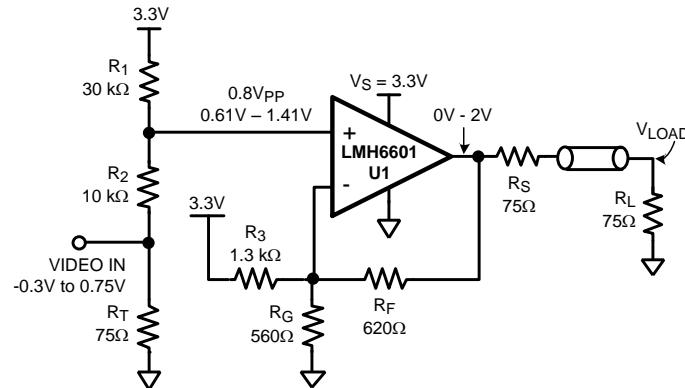

Figure 53. Single-Supply, DC-Coupled Composite Video Driver for Negative Going Sync Tip
If the Video In signal is Composite Video with negative going Sync tip, a variation of the previous configurations should be used. This circuit produces a unipolar (more than 0 V) DC-coupled single-supply video signal as shown in Figure 53.
In the circuit of Figure 53, the input is shifted positive by means of  $R_1$ ,  $R_2$ , and  $R_T$  in order to satisfy the common-mode input range of the U1. The signal will lose 20% of its amplitude in the process. The closed-loop gain of U1 must be set to make up for this 20% loss in amplitude. This gives rise to the gain expression shown in Equation 1, which is based on a getting a 2  $V_{PP}$  output with a 0.8  $V_{PP}$  input:
**Table 1. Finding External Resistor Values by Iteration for Figure 53**